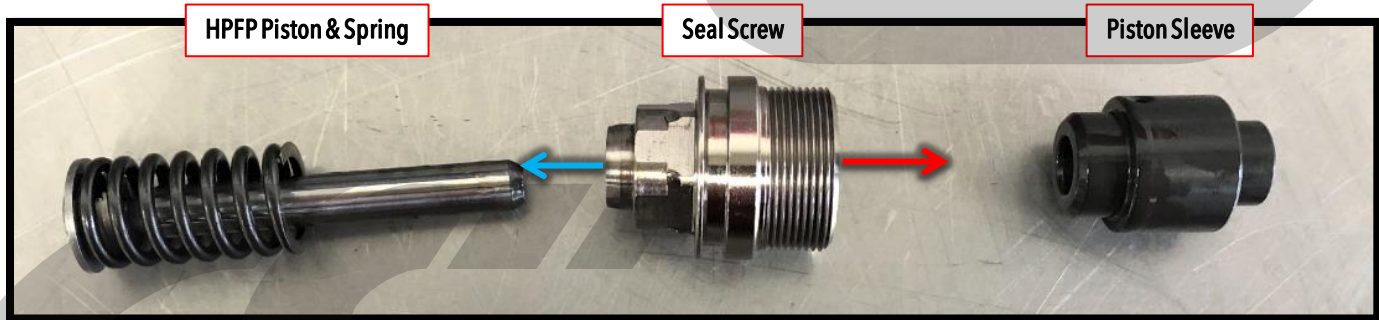

Figure 6b
- b) **OEM HPFP Internals** : Your piston sleeve should slide off the top of your piston with relative ease by pulling in the direction shown in **Figure 6b** with **red arrow**. Then, your HPFP piston can be removed from your seal screw by pulling in the direction of the **blue arrow** in **Figure 6b**.